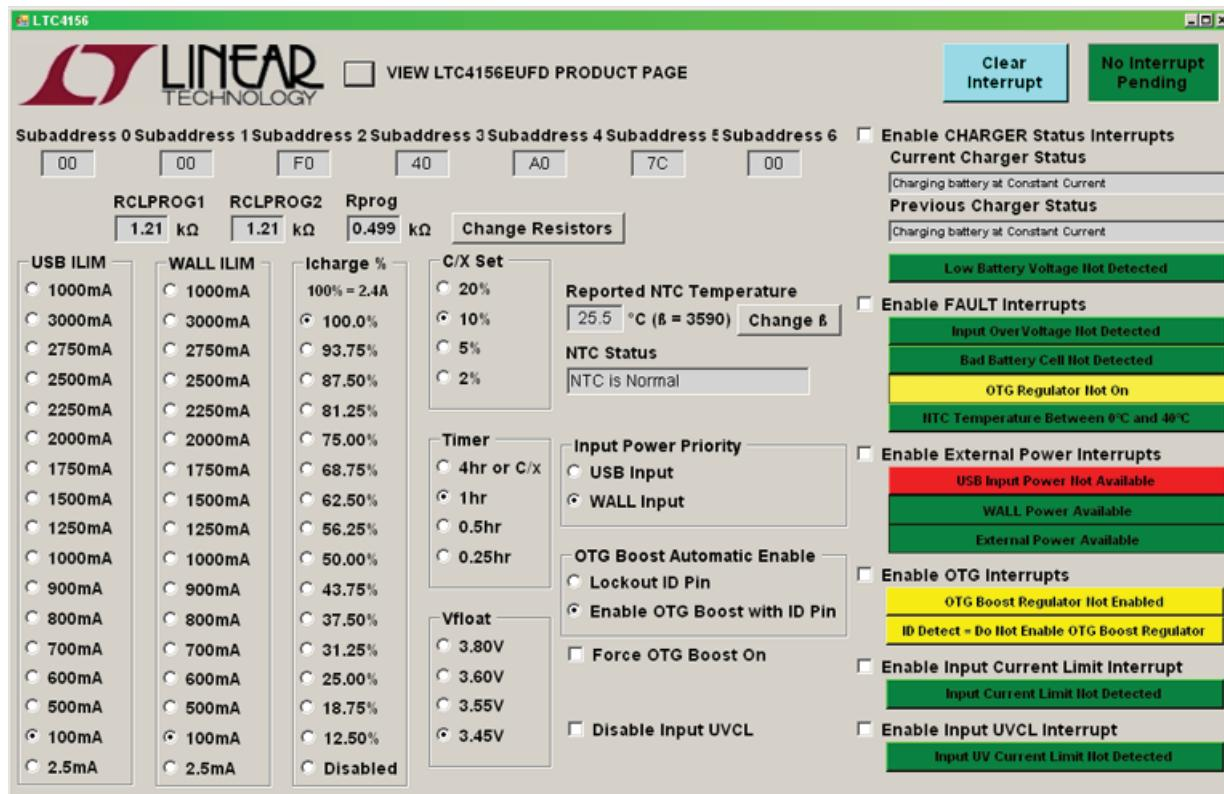
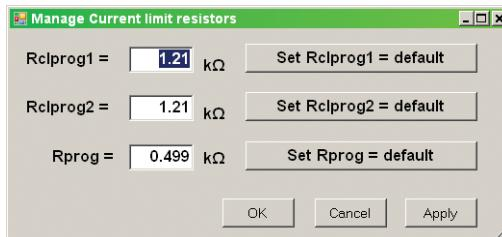
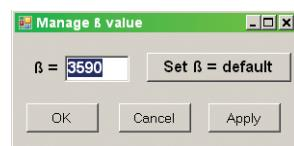

Figure 3. LTC4156 Main Form
Figure 4. Manage Current Limit Resistors Form
Figure 5. Manage β Value Form
2. Start the Linear Technology QuickEval™ program. Download and install the latest version of the QuikEval program from the following weblink: <http://www.linear.com/design-tools/software/>. This program should automatically detect the presence of the LTC4156EUFM demo board (DC1674A-B) and activate the appropriate GUI, as seen in Figure 3.
The DC1674A-B GUI is composed of three forms, the LTC4156 form (Figure 3) that is brought up by the Quick-Eval program, the Manage Current Limit Resistors form (Figure 4), that is brought up by pressing the “Change Resistors” button on the LTC4156 form, and the Manage β Value form (Figure 5) that is brought up by pressing the “Change β ” button on the LTC4156 form.